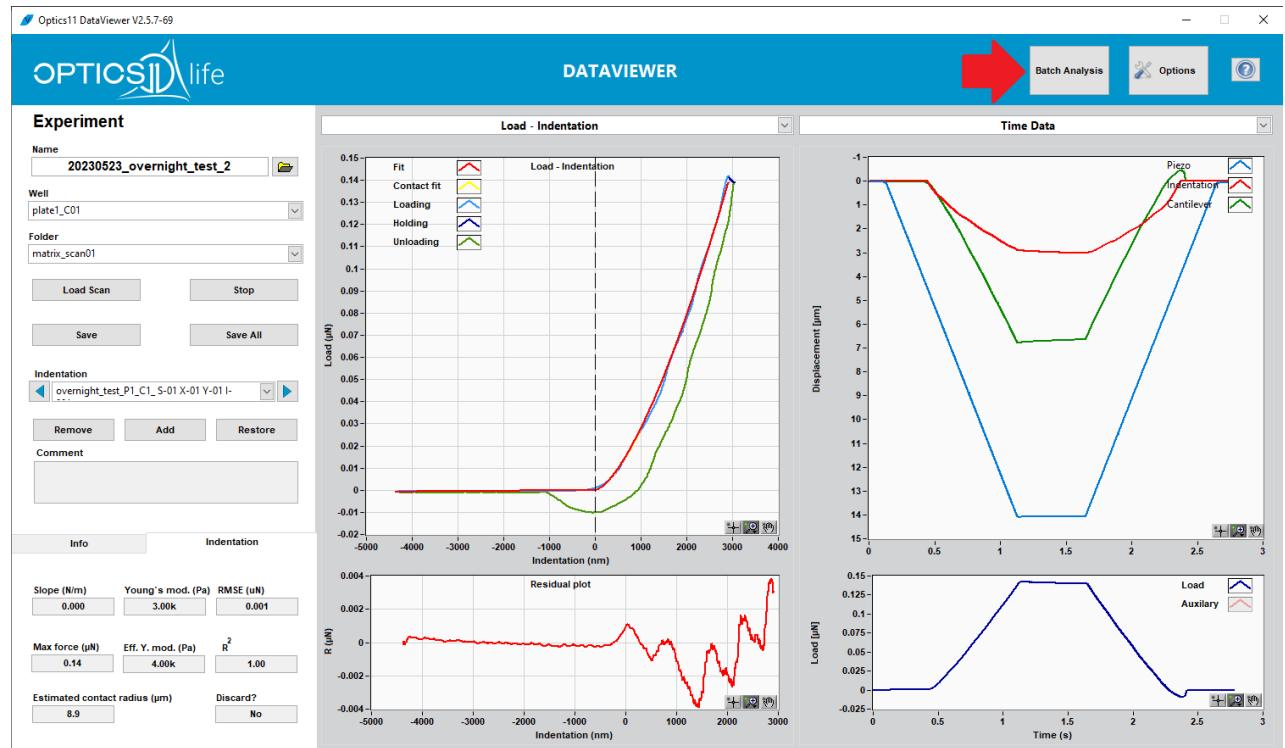

Figure 11: New GUI of the DataViewer v2.6.0 with the Batch Analysis button next to the Options.
1. To use the batch analysis feature, click on the "Batch Analysis" button next to the Options as shown by the red arrow on Figure 11.